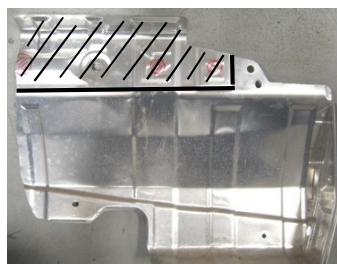
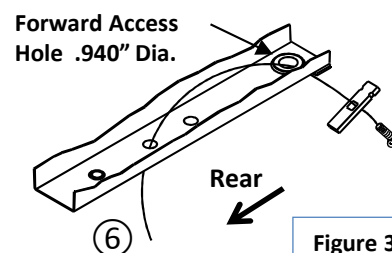

Figure 2
Figure 3
- Lower muffler** – Using an exhaust hanger removal tool or pry bar, lower muffler by removing (3) to (5) rubber hangers (varies by model year). A spray a lubricant or soapy water on rubber hangers makes them slide off metal pins more easily. **NOTE: Using a ratchet strap or bungee cord, be sure that exhaust is supported before removing rubber hangers.**
- Remove heat shield** – Using a 10mm socket, remove (4) screws holding heat shield(s) to vehicle. **NOTE: Shield will be trimmed and replaced prior to installing hitch.**
- Remove rubber plugs** - using a flat screw driver, remove (3) rubber plugs from the (3) forward holes in the bottom of the frame. Do not remove the rearmost rubber plug.
- Trim heat shield** – Using metal shears, trim the heat shield as shown. **See figure 2.**
- Reinstall heat shield** – Reinstall heat shield using (3) of the screws removed in step 2.
- Install fasteners** – Feed the coiled end of pull wire through the second attachment hole and out of the forward most access hole in the bottom of frame. Attach the 7/16" carriage bolt and 1/4" thick spacer block (item 2) to the pull wire and pull the fasteners into position, both sides. Repeat process for the middle attachment, both sides. Make sure the spacer blocks are sitting flat inside the frame and do not overlap. **See figure 3.**
3. **Remove rubber plugs** - using a flat screw driver, remove (3) rubber plugs from the (3) forward holes in the bottom of the frame. Do not remove the rearmost rubber plug.
4. **Trim heat shield** – Using metal shears, trim the heat shield as shown. See figure 2.
6. **Install fasteners** – Feed the coiled end of pull wire through the second attachment hole and out of the forward most access hole in the bottom of frame. Attach the 7/16" carriage bolt and 1/4" thick spacer block (item 2) to the pull wire and pull the fasteners into position, both sides. Repeat process for the middle attachment, both sides. Make sure the spacer blocks are sitting flat inside the frame and do not overlap. See figure 3.
7. Install forward most fasteners – Using the reverse fish wire method, attach the 7/16" carriage bolts and 1/4" thick spacer blocks (item 2) to the pull wire and pull the fasteners into position, both sides..
8. Attach spacer blocks – using tape, secure the 1/8" thick spacer blocks (item 3) to the top of hitch brackets at the forward most attachment, (1) per side.
9. Install hitch – raise hitch into position being careful not to push fasteners back into the frame. Using an 11/16" socket, loosely install the 7/16 conical toothed washers and 7/16-14 hex nuts onto carriage bolts, (6) places. Make sure the 1/8" space blocks (item 3) are sitting flush against the bottom of the frame and are not on the raised area of frame. If necessary, adjust the hitch towards the driver's side to provide more clearance between the hitch and muffler. Torque fasteners to specifications below.